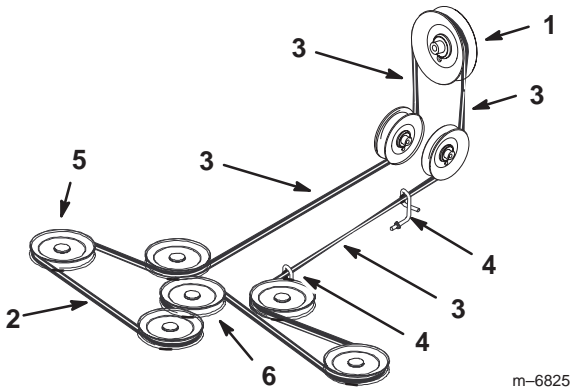

Figure 66
5. Install the new mower belt around the mower spindle pulleys, mower idler pulley, into the belt guides, into rear idler arm assembly, and the clutch (Fig. 66).
Important Check the amount of twist in the belt between the pulleys. Make sure it is only what is specified in Figure 66.